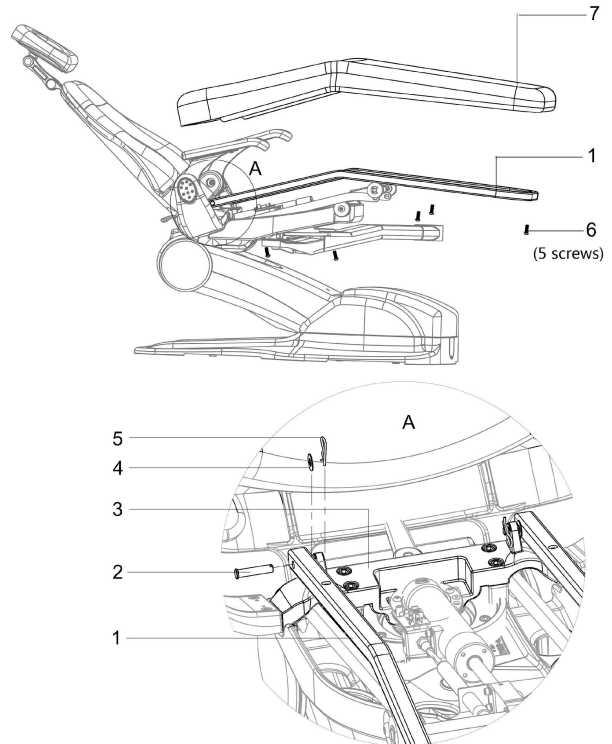

Figure 22. Seat Cushion Installation
1. Put the seat frame ① along the side of the chair yoke casting ③.
2. Align the seat frame through hole with the chair yoke casting through hole as indicated on Figure 22 Detail A.
3. Place a washer ④ between the seat frame and the yoke casting ③.
4. Install a clevis pin ② through the hole on each side of the chair.
5. Install an R latch ⑤ through the hole on each of the clevis pin.
6. Put the seat cushion ⑦ on top of the seat support frame ①.
10. Tighten all 5 screws ⑥.